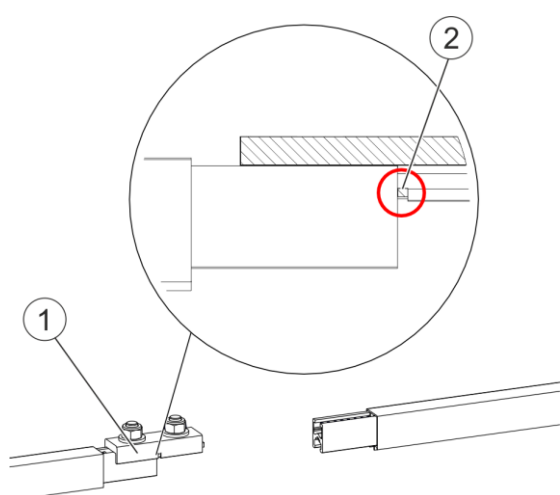
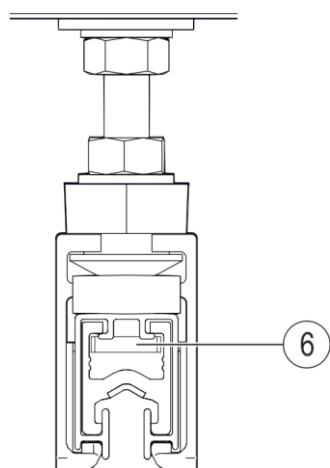

Fig. 76: Slide the connector onto the first end of the conductor bar up to the notch
Fig. 82: Clamping plate (Pos. 6) of the connector lies in the hollow profile of the rail
- Mount the connector (Pos. 1) up to the notch (Pos. 2) on the first end of the conductor bar (see Fig. 76). Depending on the function, a gap of 2 to max. 3 mm between the rail ends is necessary. The clamping plate (Pos. 6, see Fig. 82) must lie in the hollow profile of the conductor bar.